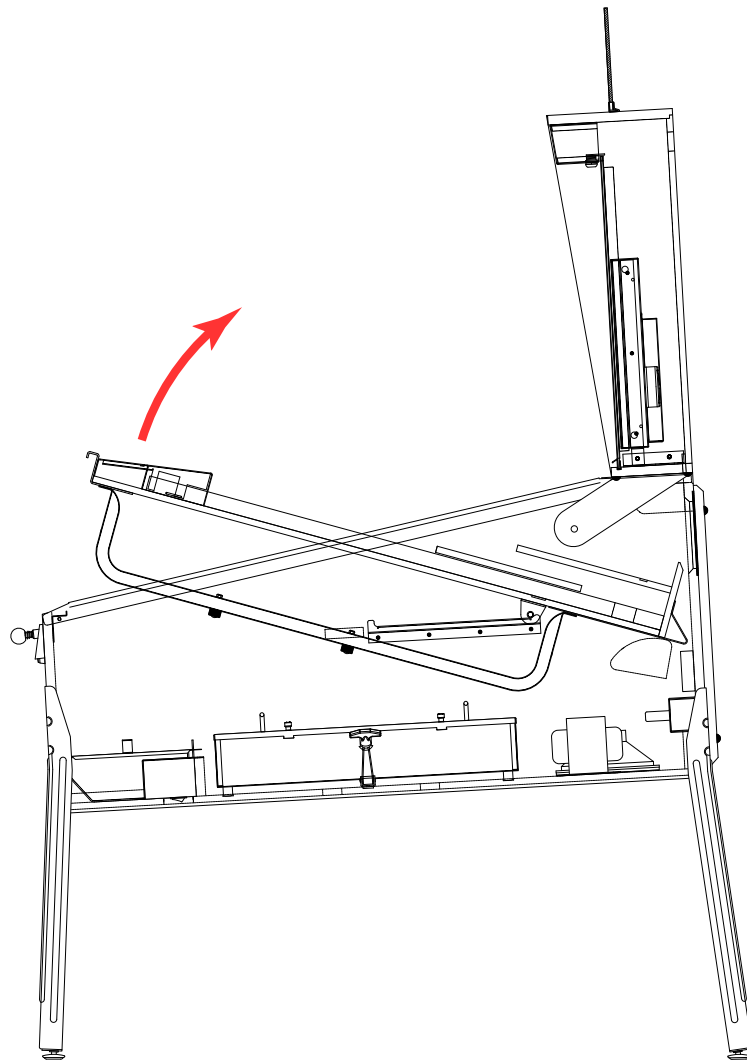
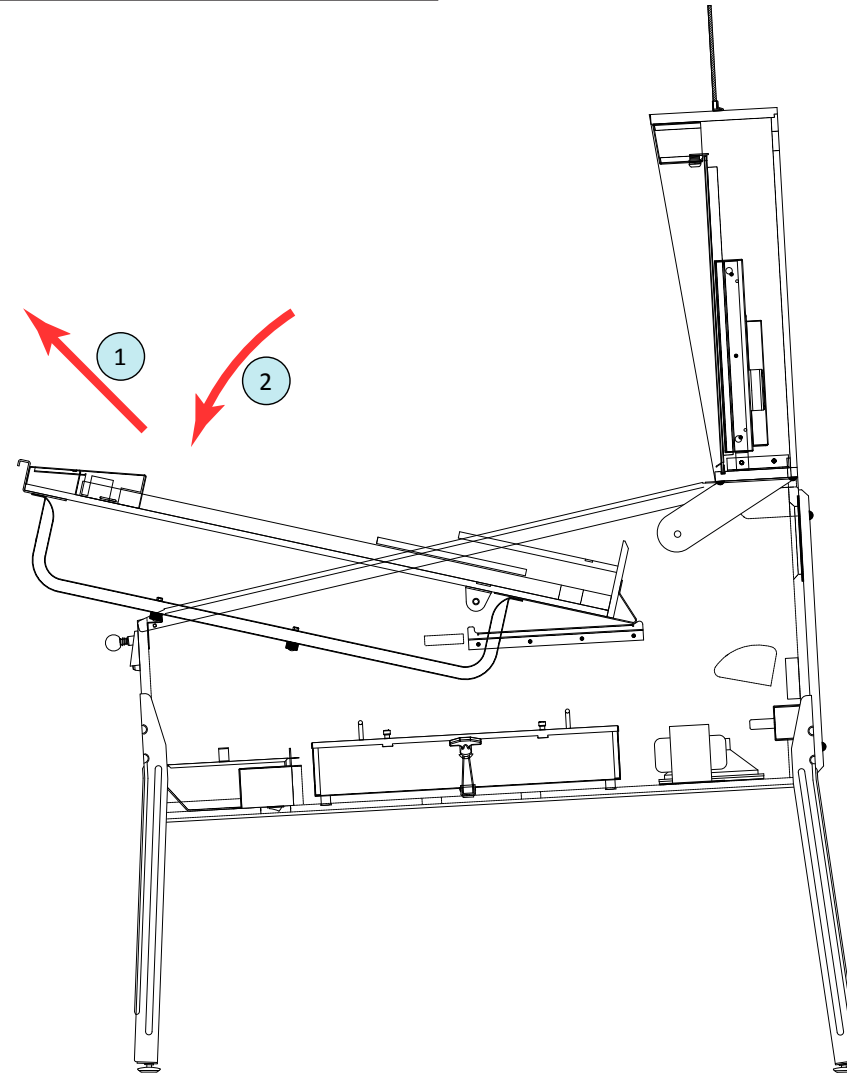

Figure A12. Swing the playfield upward.
Figure A13. Moving the playfield to position 2.
14) Grasp the playfield under its bottom arch and swing it upward until the support rails underneath are fully visible (figure A12). Move the playfield to position 2 (figure A13). Pull it upward and outward until the first pair of rubber feet reach the top of the lockdown bar receiver; then lower the playfield, resting the rubber feet in the steel channel.